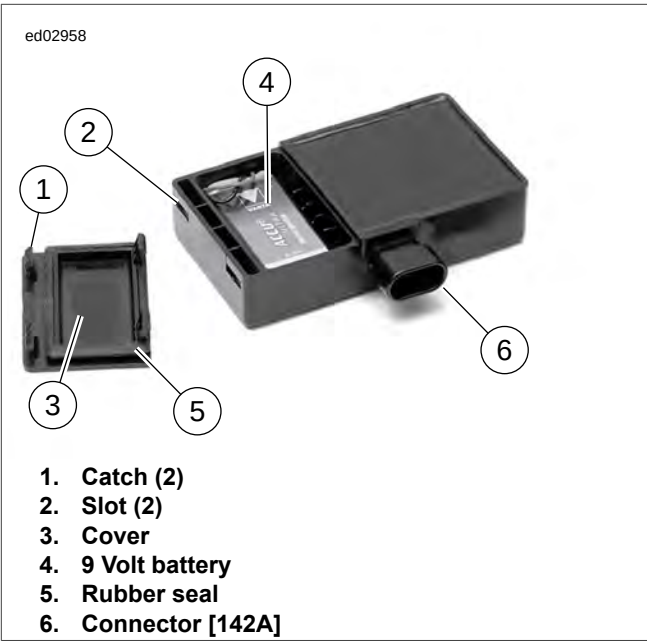

Figure 7-13. Battery Compartment
2. See Figure 7-13. With a small screwdriver or pick, push the catches (1) in through the two slots (2) in the end of the siren to release the battery cover (3).